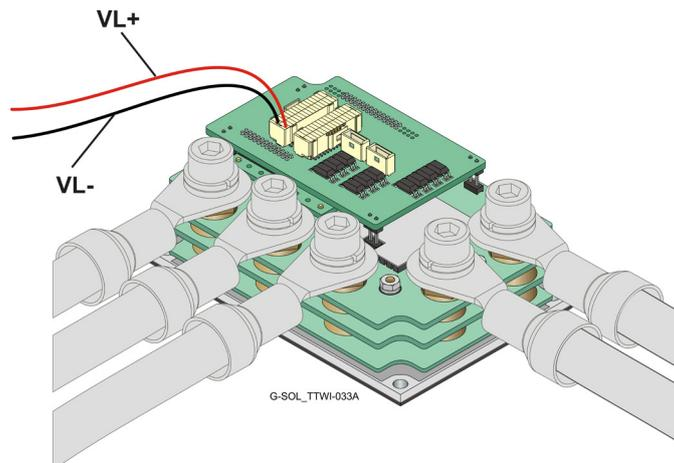

Figure 10: Connecting the Control Supply Wires
3. Connect the VL+ and VL- wires to the terminals on the servo-drive as shown in Figure 10.